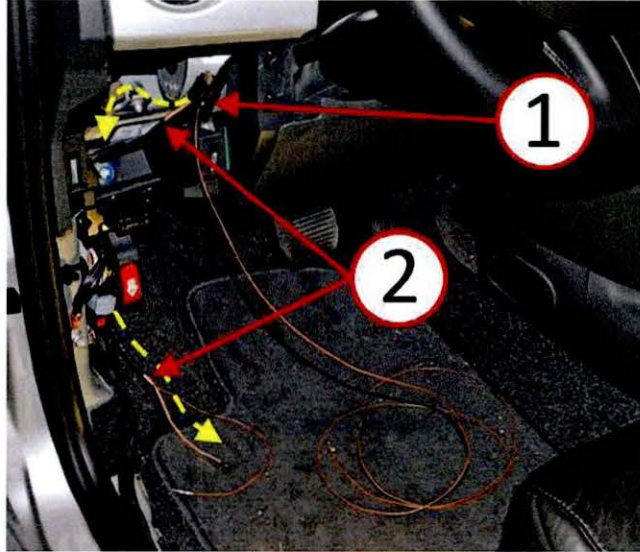

**Fig. 7 Closeout Panel**
10. Remove the instrument panel closeout fasteners (2) (Fig. 7).
11. Remove the instrument panel closeout panel (1) (Fig. 7).